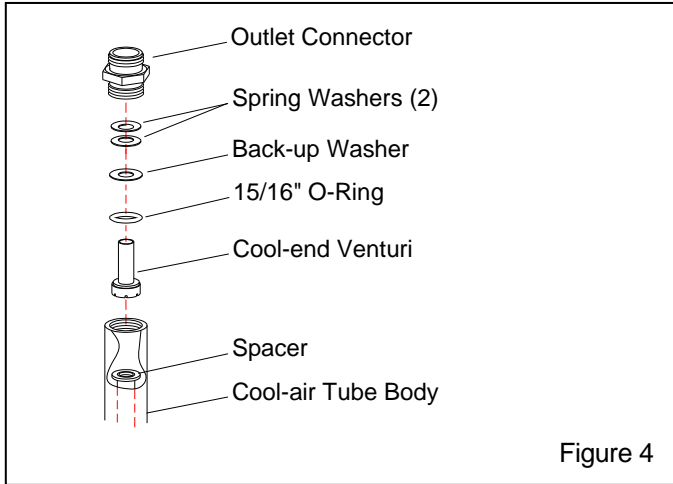
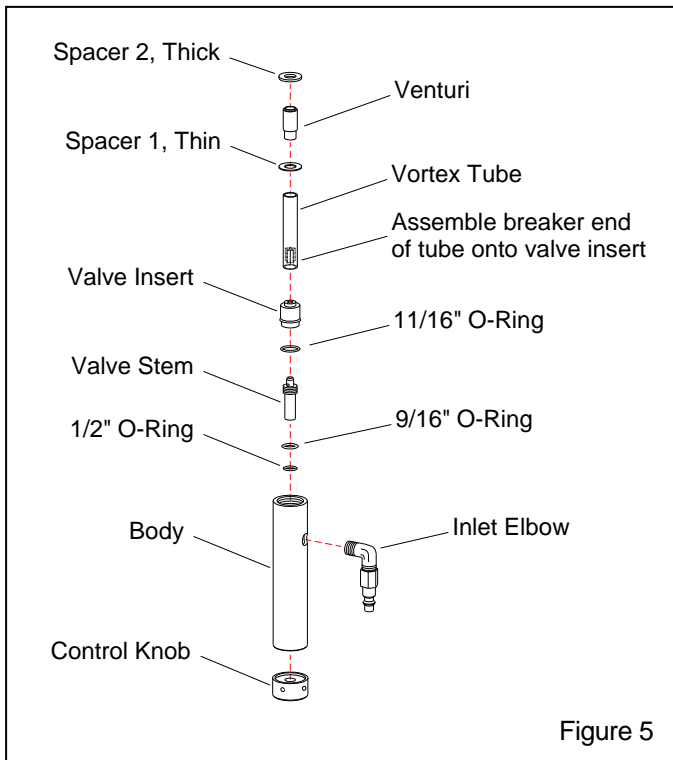

Figure 4
Figure 5
5.2 Cool-End Venturi, Figure 4
5.3 Vortex Tube Assembly, Figure 5
5.3.4 Lubricate the valve stem threads with silicone grease and screw it fully, finger-tight, into the valve insert. Lubricate new o-rings. Slide the 9/16" and 1/2" o-rings onto the stem, with the larger of the two toward the insert. Put a new o-ring on the insert and reassemble the vortex tube assembly and cool-air tube as shown in Figures 4 and 5. **NOTE: One end of the vortex tube has a metal "vortex breaker" in it. Inspect the breaker for wear or damage. Reassemble, making sure the valve insert and stem are installed on the breaker end of the tube.** To ease assembly of the vortex tube assembly, assemble it as shown in Figure 5, turn the body upside down and insert the assembly into the body